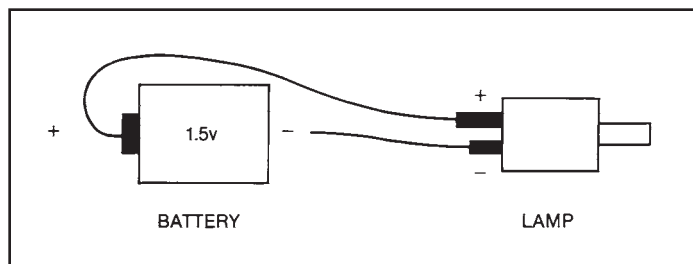

FIGURE 8
2. Check lamp operation with 1.5 volt battery as shown in Figure 8.